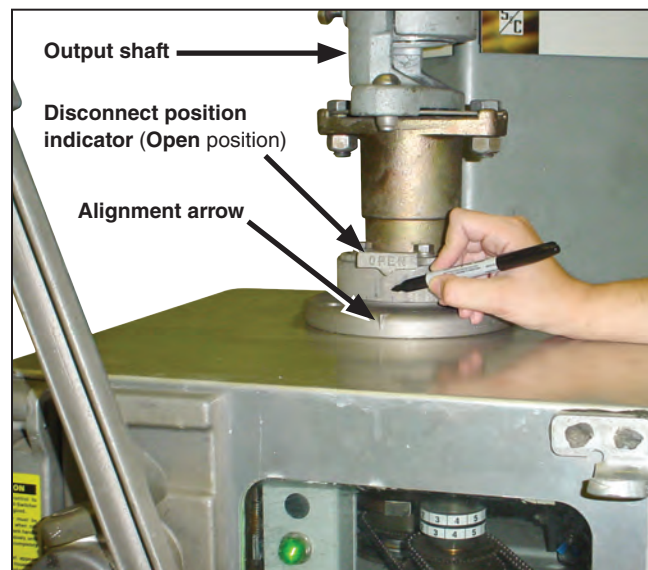

Figure 63. Adjust the position indicator.
- STEP 3.** With the SELECTOR handle in the **Coupled** position, crank the disconnect to the fully **Open** position and then accurately align the disconnect position indicators on the output-shaft collar of the switch operator with the alignment arrow below. See Figure 63.
- (a) With the SELECTOR handle in the **Coupled** position, manually crank the disconnect to the fully **Open** position and then to the fully **Closed** position. Temporarily mark, on the top of the switch operator enclosure, the direction in which the output shaft rotates to close the disconnect. See Figure 63 on page 38.